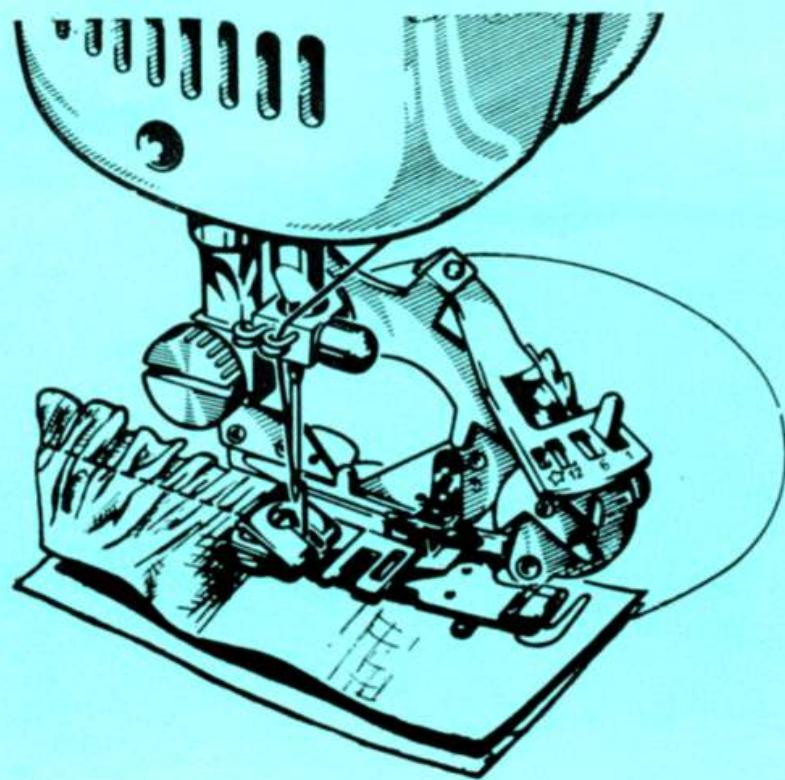

Fig. 19
- 3) Proceed as for plain ruffling (gathering). Fig. 19 shows how to make a ruffle and to attach it in one operation.